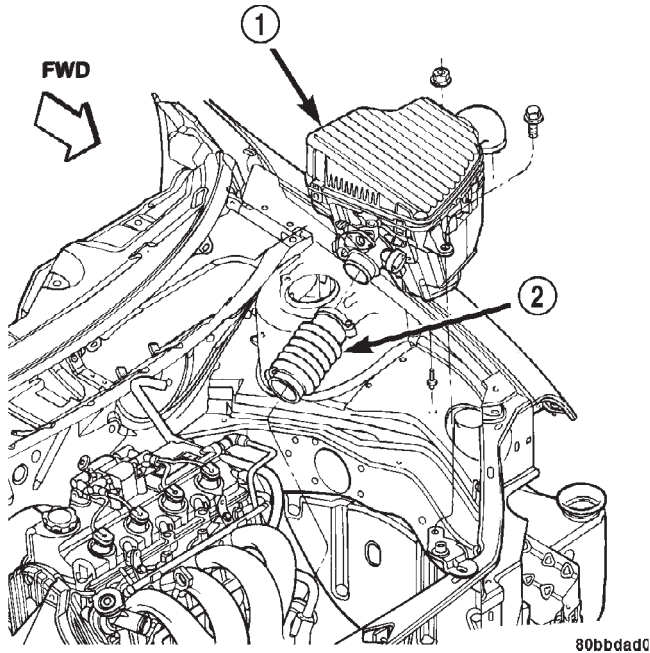

Fig. 10 Air Cleaner Assembly Removal/Installation
(1) Raise hood.
(2) Disconnect and isolate both battery cables, remove battery hold down clamp and bolt, and remove battery.
(3) Remove air cleaner/throttle body assy. (Fig. 10) as follows:
(d) Remove mounting bolt and nut (Fig. 10) and partially remove air cleaner assembly.